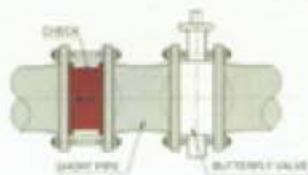

Fig.3
- Use an extension tube between wafer Check and the butterfly valve. Never connect wafer Check to the valve directly. (Fig.3)